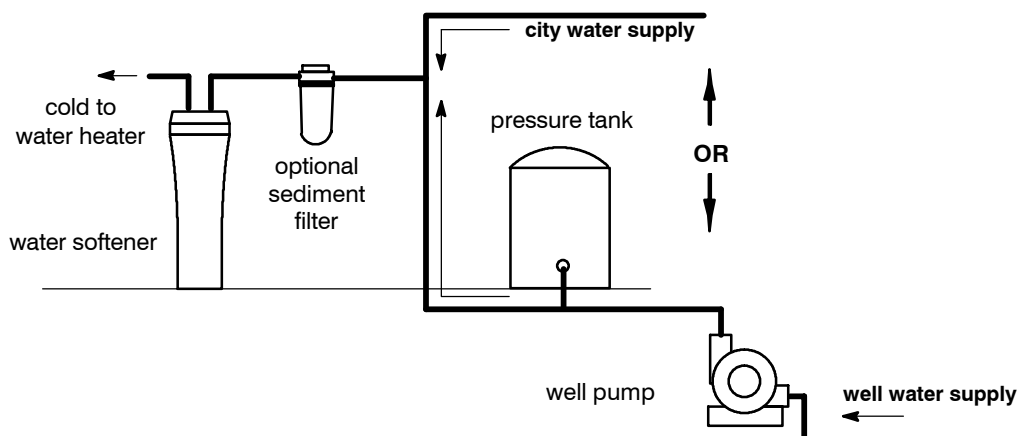

Figure 1
- Always install the water softener between the water heater and water inlet. Any other installed water conditioning equipment should be installed between the water softener and the water inlet (see Figure 1).